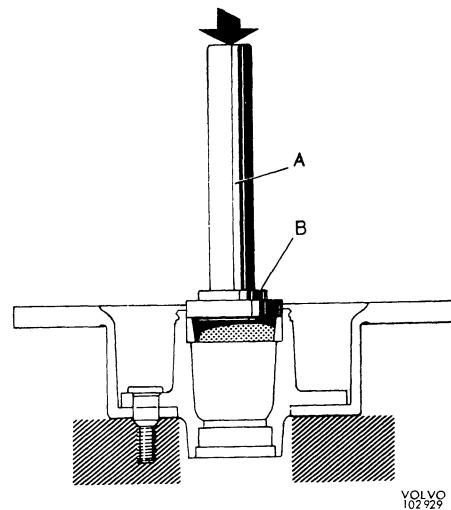
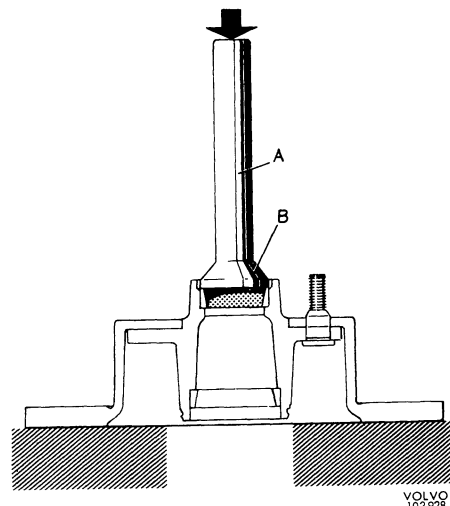

Fig. 7-20. Fitting outer ring, inner bearing
Fig. 7-21. Fitting outer ring, outer bearing
6. Press in the new bearing rings. In addition to standard handle SVO 1801, use drift SVO 1798 (Fig. 7-20) for the inner bearing ring and for the outer bearing ring SVO 1797 (Fig. 7-21).